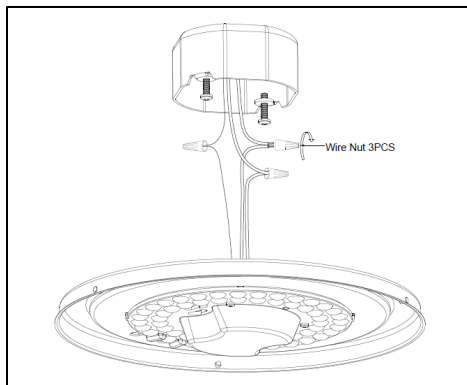

Figure 9
2. With the power turned off, hold the fixture housing assembly (2) firmly and connect the copper ground wire from the fixture to the bare copper wire from the junction box using a wire nut (5) (if housing wiring does not include a ground wire, consult your local electrical code for approved grounding method.) (See Figure 9)
3. Use wire nuts (5) to connect the black fixture wire to the black power supply wire and white fixture wire to the white power supply wire. (See Figure 9).